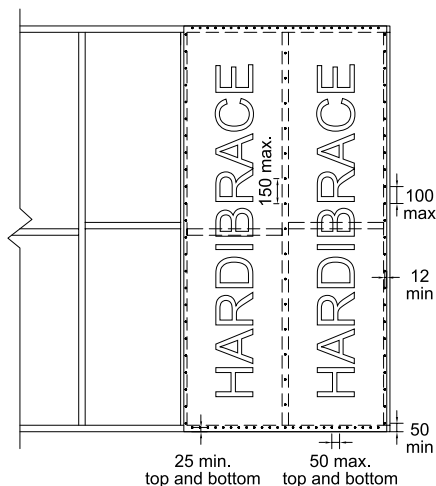

Figure 2: Type B Nailing Detail
To achieve Type B bracing capacity (6kN/900mm), fix the HardiBrace™ Sheet Bracing in accordance with Figure 2, Section 5 and Clause 2.2.5 of this manual.
- To achieve **Type B** bracing capacities with 6mm JHFC sheets as defined at Clause 1.2 of this manual, fix sheets in accordance with Figure 2, Section 5 and Clause 2.2.5 of this manual.
| HardiBrace™ Sheet Bracing fixed with close-nailed pattern (see Figure 2) | 6.6 |
| 6mm JHFC sheets, single-sided, fixed vertically as per close nailed HardiBrace™ Sheet Bracing (see Figure 2) | 6.6 |